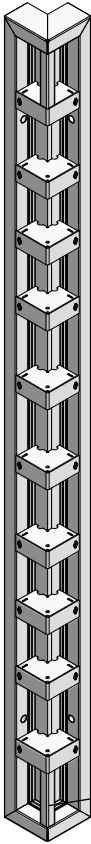
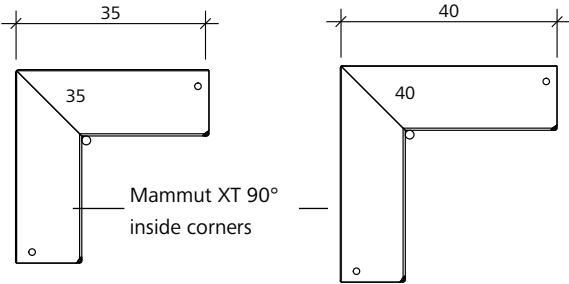

Fig. 40.1
Fig. 40.3
With Mammut XT, a 90° corner can be produced for all wall thickness (WT) in 5 cm increments without filler areas. To do this, three outer-corner sizes (Figures 40.1 and 40.2) and two inner-corner sizes (Figures 40.3 and 40.4) are available for use in conjunction with standard Mammut XT panels.